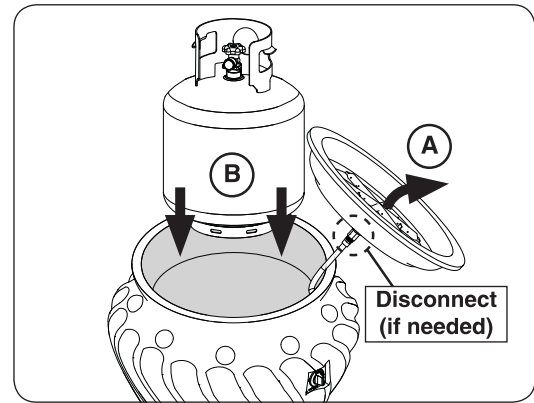
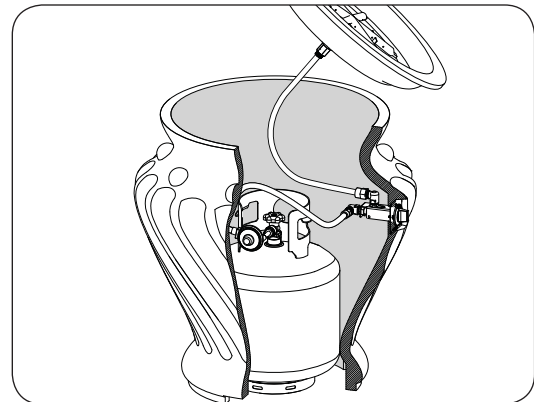

Fig. 15-1 Insert L.P. cylinder
Fig. 15-2 L.P. Cylinder placement
Note: The lid with burner assembly comes pre-installed to the control valve. When performing any gas connections, it may require the assistance of a second person to hold the lid up from the base. Alternatively, the burner assembly can be disconnected from the flex connector and stored in a safe location (see Fig. 15-1).
1. Carefully insert a propane cylinder (not included) inside the base of the unit through the top opening. See Fig. 15-1 and Fig. 15-2.